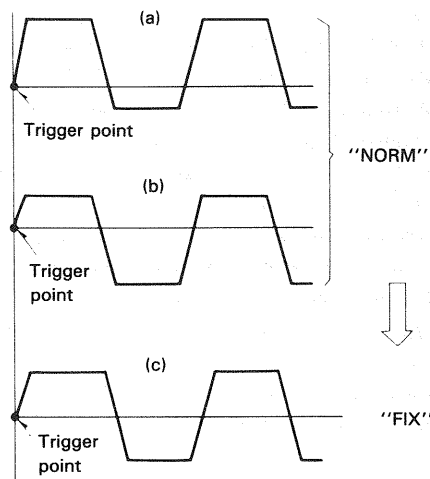

Fig. 10
When the A TRIG MODE (25) is set to FIX, triggering is always effected in the center of the waveform, eliminating the need for adjusting the triggering level. As shown in Fig. 10-(a) or (b), when the A TRIG MODE is set to NORM and the triggering level is adjusted to either side of the signal, the trigger point is deviated as the input signal becomes small which, in turn, stops the sweep operation. By setting the A TRIG MODE to FIX, the triggering level is automatically adjusted to the approximate center of the waveform and the signal is synchronized regardless of the position of LEVEL control as shown in Fig. 10-(c).